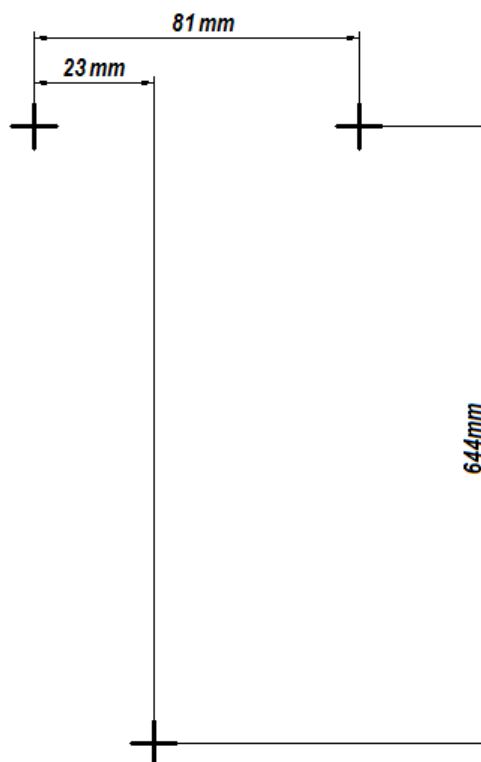

Fig. 2. Diagram of spacing between $\varnothing 10$ openings necessary for attaching the pump control unit
- Attach the pump and control unit to the wall using 3 anchor screws in spacing as presented in **Figure 2**.